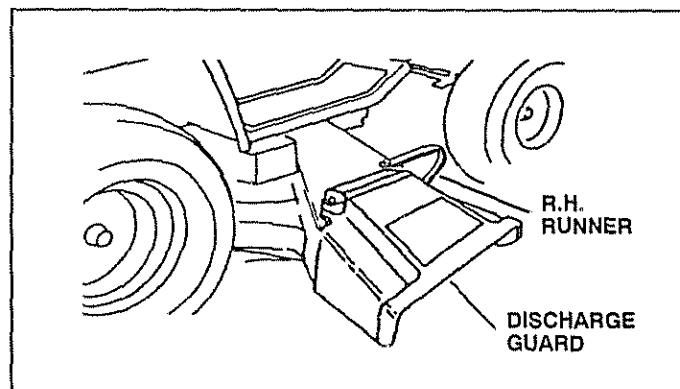

FIG. 15
- Use the runner on the right hand side of mower as a guide. The blade cuts approximately an inch outside the runner (See Fig. 15).